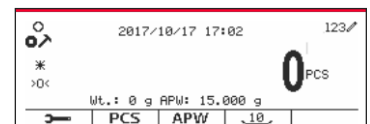

Figure 45
3. After editing, press the softkey corresponding to the ✓ icon for confirmation, and then press the softkey corresponding to the → icon to exit the submenu. (See Figure 45)